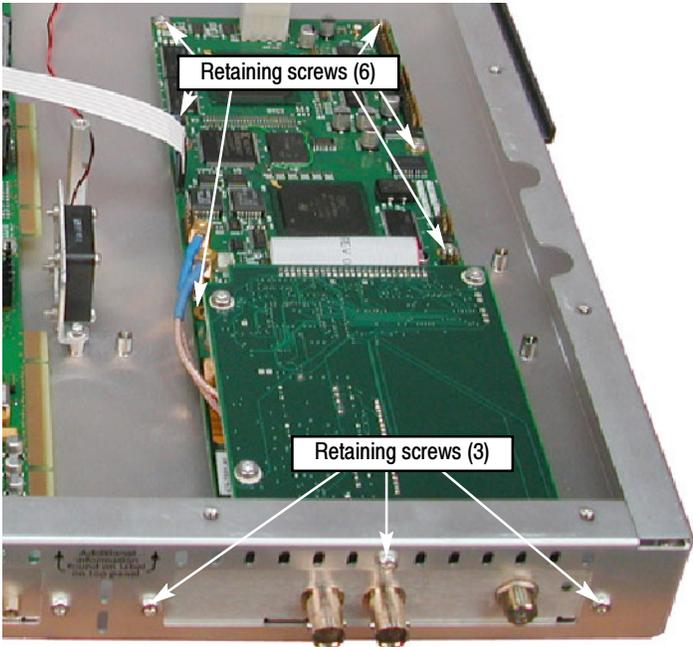

Figure 3: Interface card retaining screw locations
4. Remove the six retaining screws from the interface card and remove the three retaining screws from the rear panel (see Figure 3).
12. Position the interface card in the instrument chassis, and then install the six retaining screws in the interface card and install the three retaining screws in the rear panel (see Figure 3 on page 5).